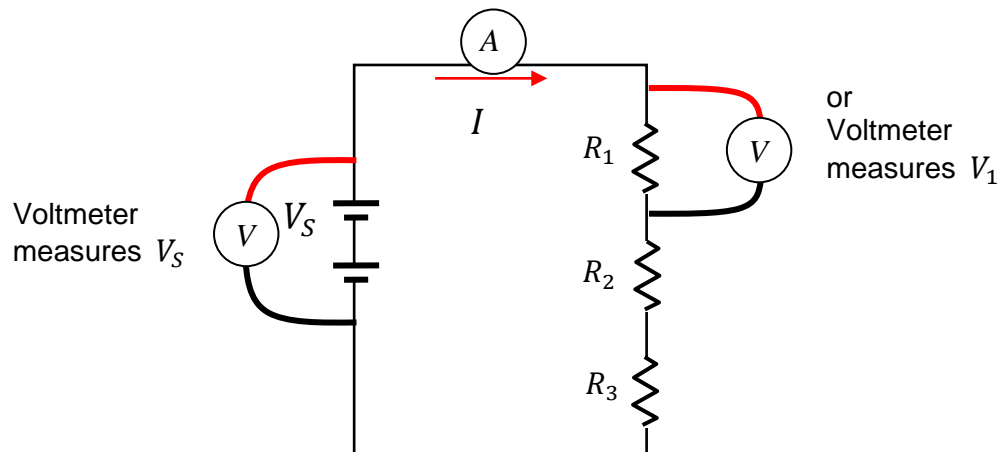

Figure 8. Measuring voltages
- Set your second multimeter in the voltage setting and use it to measure the source voltage, V_S , across *both* batteries at once, as shown on the left side of Figure 8. It should read about 2.5V to 3.0V. Record this value as source voltage V_S on Table B.
- Read the total current I from the ammeter and record this as your *measured* value of current I . Move the voltmeter leads to place them across the resistors one at a time, as shown on the right side of Figure 8 for R_1 . Read and record these as the *measured* values of voltage V_1 , V_2 and V_3 . When you are done, disconnect one lead from the battery so that you do not drain the battery while you are making calculations.